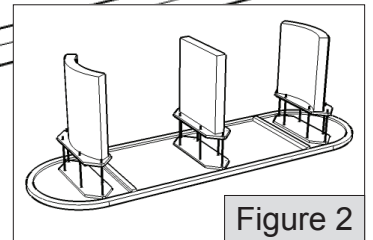

Figure 2
5. Optional: If you purchased the 120" table, a straight panel base and 6 additional Allen bolts have been included for attachment in the center position, as shown in figure 2.